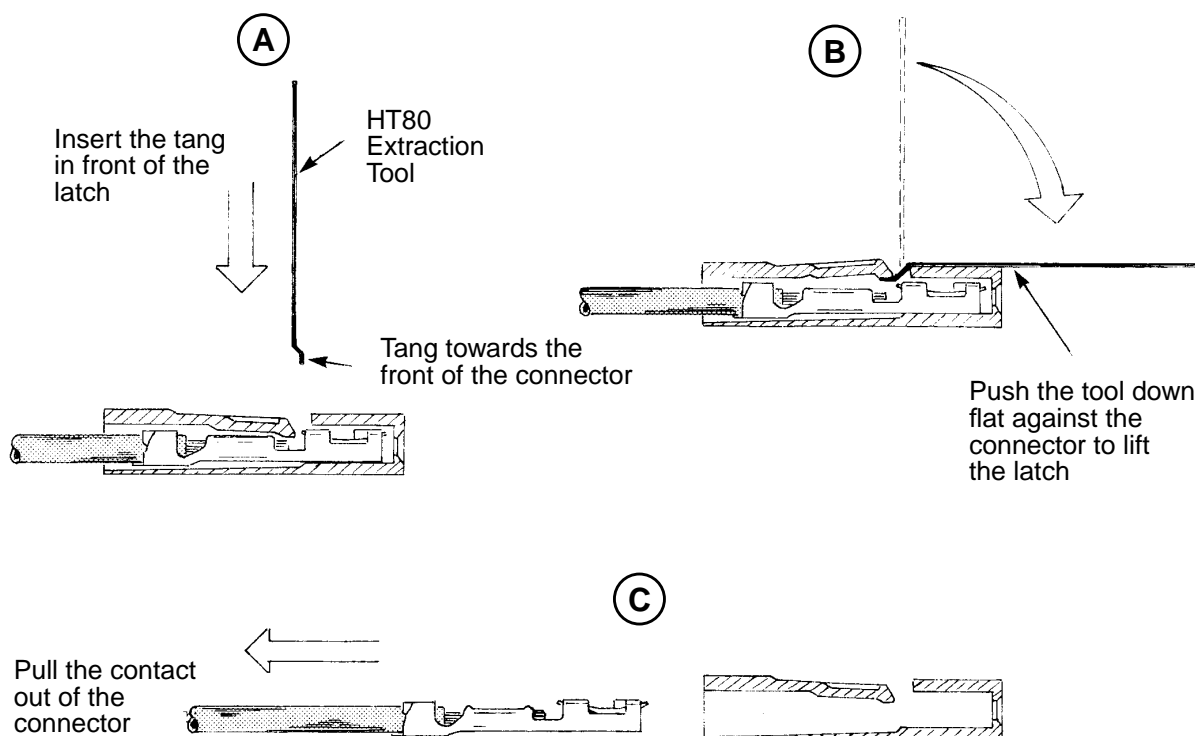

Figure 7 - Removing Contacts from Connectors
- 5.6.1 If necessary, remove contacts from connectors using the BERG HT 80 extraction tool as follows (see Figure 7). In order to avoid damaging or destroying the connector latch mechanism, it is imperative that only the tooling and procedure specified herein are used.